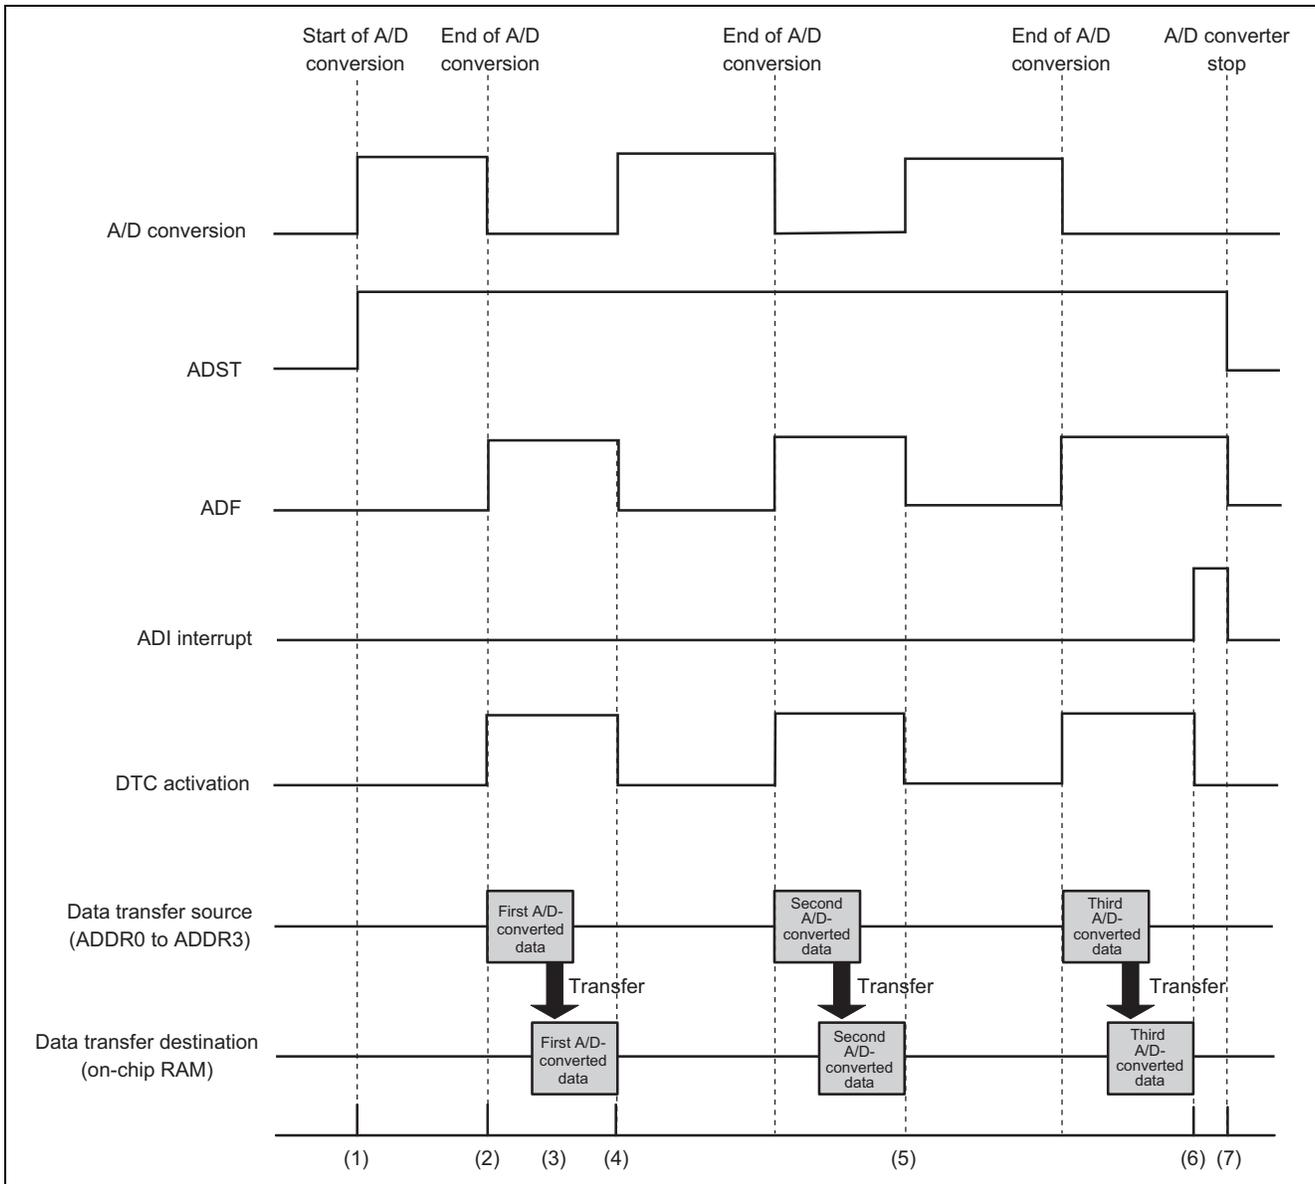

Figure 4 Timing of A/D Conversion and DTC Transfer
Figure 4 is a timing diagram for A/D conversion, DTC activation and data transfer. The processes are shown in table 3.
Firstly, the ADI interrupt is enabled, and then the ADST bit is set to 1 to start A/D conversion (figure 4, (1)). When the ADF bit is set to 1 automatically at the end of the A/D conversion, an ADI interrupt request is generated and the DTC is activated (figure 4, (2)). Even if an ADI interrupt request is generated, no interrupt occurs if the DTC is activated. Then, the DTC transfers the converted data in ADDR0 to ADDR3 collectively (as a block) to the previously reserved area in RAM (figure 4, (3)). When the data transfer ends, the ADF bit is automatically cleared (figure 4, (4)). The A/D conversion in this sample application is performed in continuous scan mode. Therefore, the ADST bit is not automatically cleared. The A/D conversion and DTC transfer are repeated three times without the ADST bit being manipulated (figure 4, (5)). When the last (fourth) DTC transfer ends and the ADF bit is set to 1, the DTCE bit is cleared automatically, thereby causing an ADI interrupt (figure 4, (6)). In the processing routine for this interrupt, the ADST bit is cleared to stop the A/D converter (figure 4, (7)).